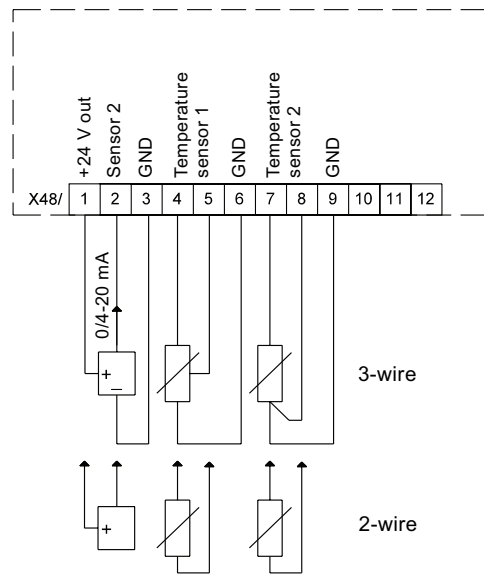

Fig. 2 Wiring diagram, MCB 114
4. Connect the signal cables, and fasten the cables with the enclosed cable strips. See fig. 2.